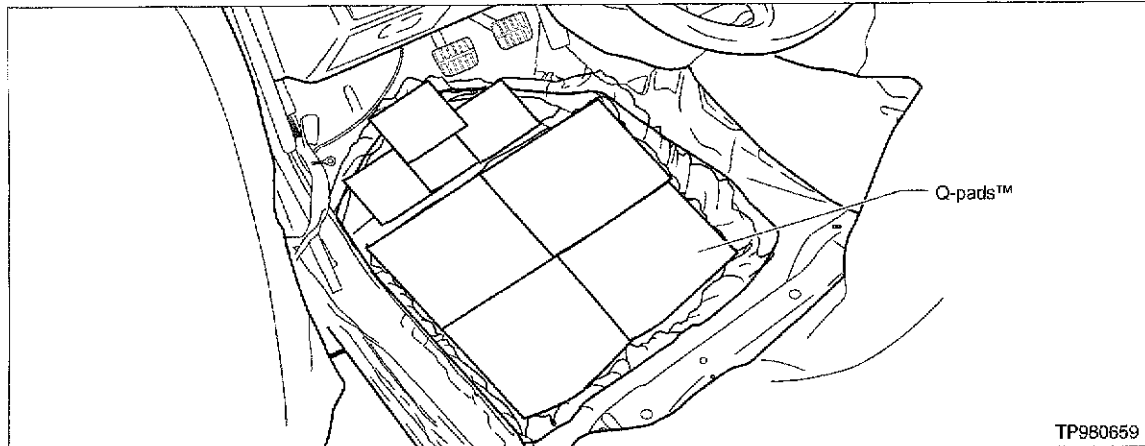

Figure 9
25. Apply a sound deadening material (such as Q-pad™ or 3M silencer strips P/N 051135-08585) to area of the repair (see Figure 9).